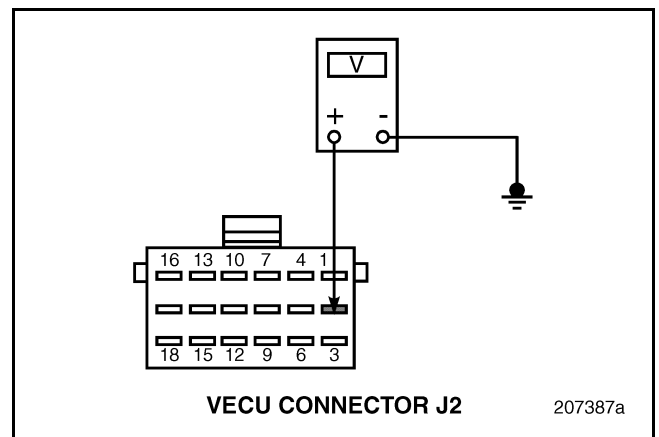

Figure 227
4. Measure the voltage between VECU connector J2 pin 2 and a good ground (see Figure 227).